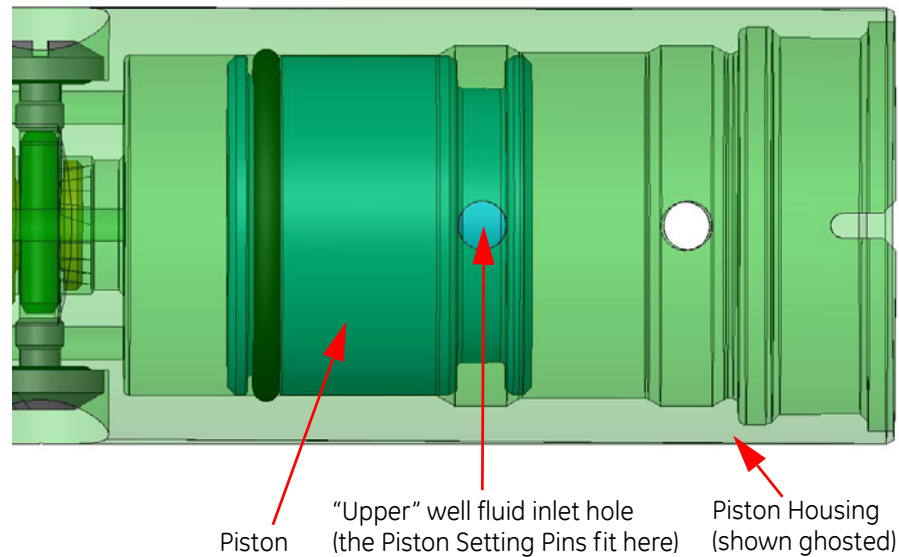

Figure 5-15 Piston only installed correctly in the Piston Housing
- 5 With reference to Figure 5-15, use the Piston Extraction Assembly to install carefully the Piston in the Piston Housing (item 12). Make sure the two new O-Rings are not damaged as the Piston is inserted.